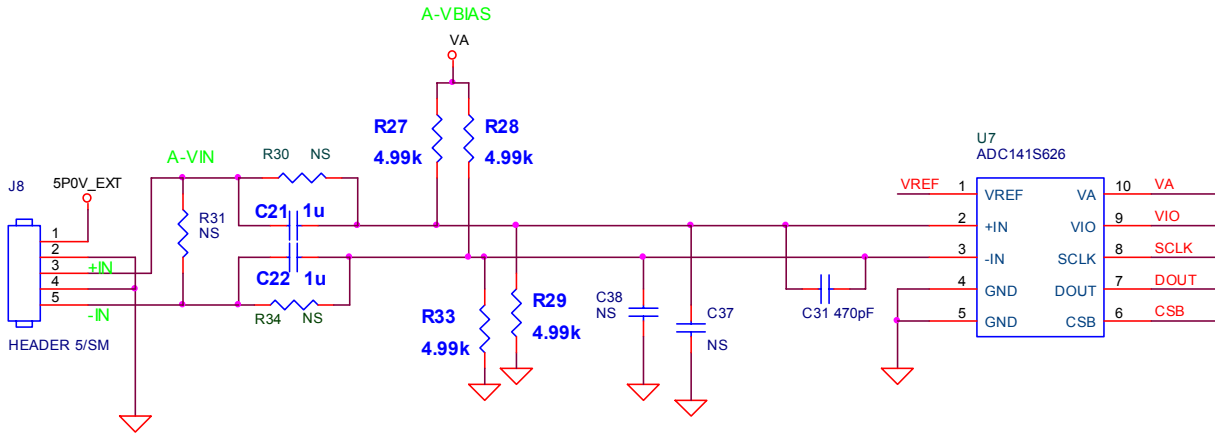

Figure 2 – Schematic to Drive ADC with an AC-Coupled Input Signal
- a. To create an ac-coupled input signal, stuff C21 and C22 with 1 uF capacitors but leave R30 and R34 unpopulated. To shift the input signal above ground, stuff R27, R28, R29, and R33 with 4.99k Ω resistors. Figure 2 shows the schematic for driving for ADC input with an ac-coupled signal.
- a. To create an ac-coupled input signal, stuff C21 and C22 with 1 uF capacitors but leave R30 and R34 unpopulated. To shift the input signal above ground, stuff R27, R28, R29, and R33 with 4.99k Ω resistors. The schematic for this mode can be seen in figure 2.
Generating an ac-coupled input signal only requires stuffing capacitors C21 and C22 with 1uF capacitors. For signal generators that do not have an offset function, stuff resistors R27, R28, R29, and R33 with 4.99k Ω resistors to shift the ac-coupled input signal above ground. Leave resistors R30, R34, and capacitors C37 and C38 unpopulated. Refer to figure 2 to see the schematic for driving the ADC input with an ac-coupled signal.